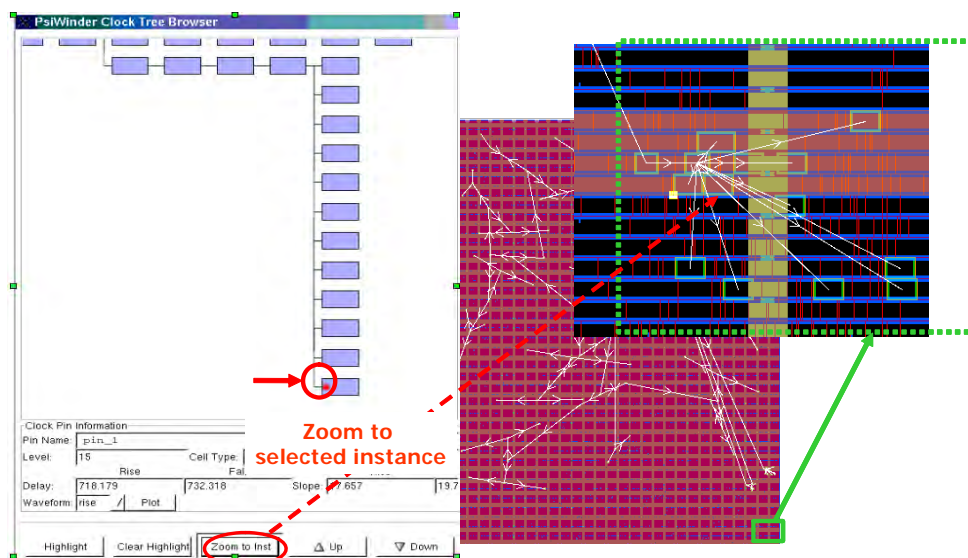

Figure 8-9 Zoom to clock instance
- Zoom to Instance button: highlights and zooms to the selected instance in the GUI layout window. See Figure 8-9.